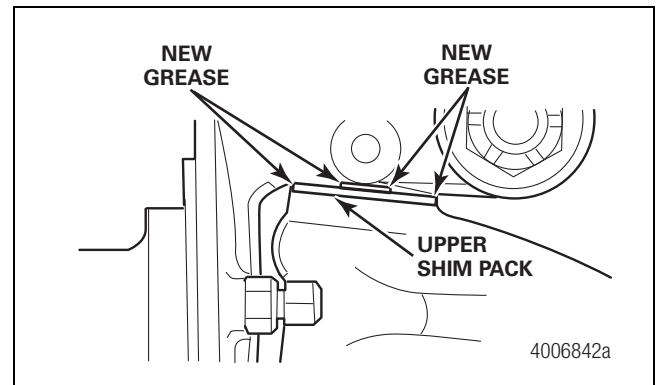

Figure 5.19
5. Apply lubricant into the top grease fitting until new grease purges from the upper shim pack. Figure 5.19.